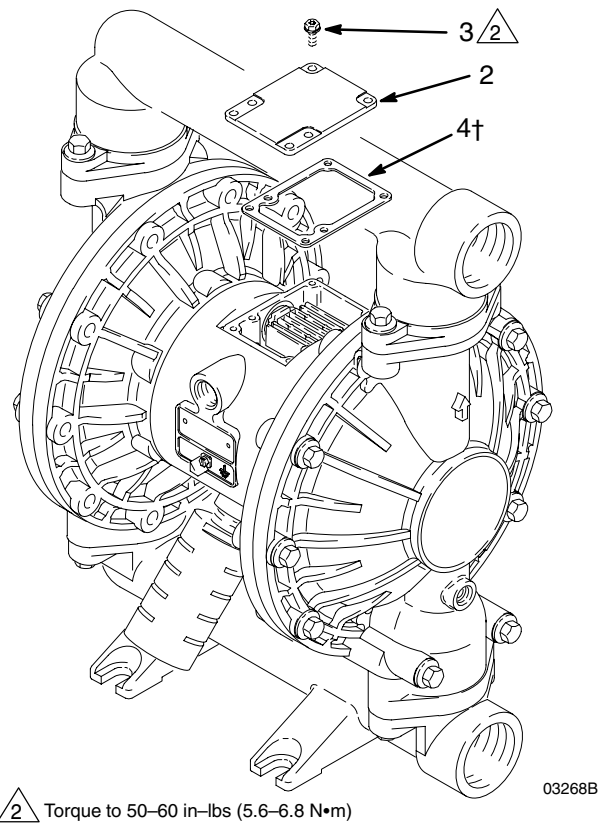

Fig. 6
2. With a Torx (T20) screwdriver or 7 mm socket wrench, remove the six screws (3), air valve cover (2), and gasket (4). See Fig. 6.
10. Align the valve gasket (4†) and cover (2) with the six holes in the center housing (1). Secure with six screws (3), using a Torx (T20) screwdriver or 7 mm socket wrench. Torque to 50–60 in–lbs (5.6–6.8 N•m). See Fig. 6.